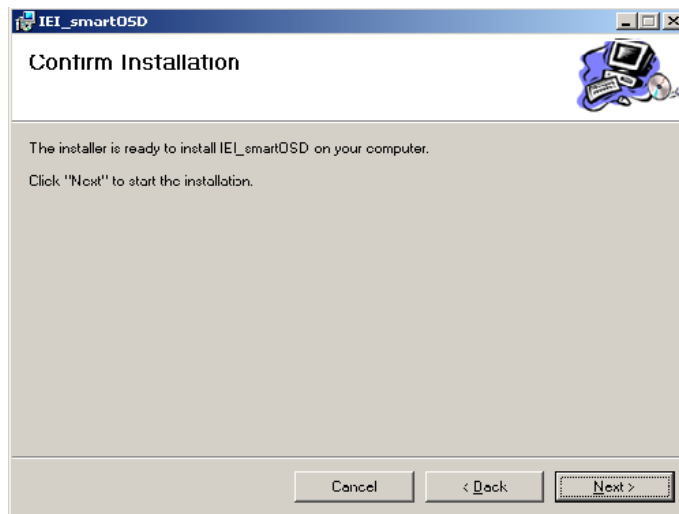

Figure C-3: smartOSD Confirm Installation
Step 8: The screen in Figure C-3 appears.